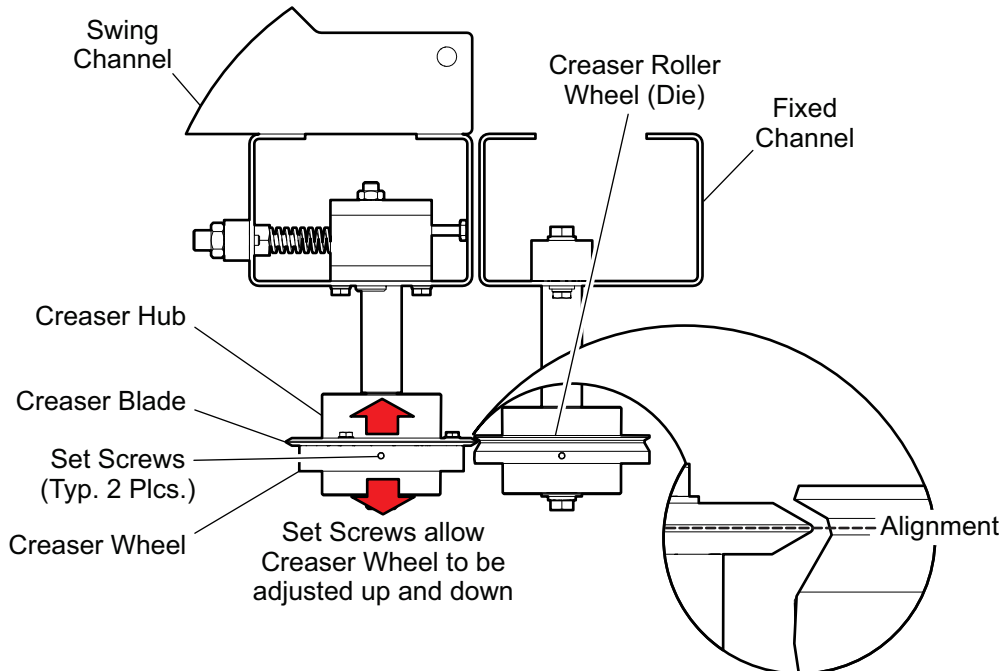

Figure 5-14: Swing Channel Creaser Blade Vertical Adjustment
1. Loosen the two set screws that hold the creaser wheel-blade assembly to the hub (see Figure 5-14: Swing Channel Creaser Blade Vertical Adjustment).